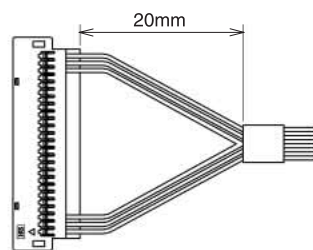

Fig. 3-1
- \* To avoid wire damage or termination faults bundling of the wires should be at the distance of 20 mm min. from the socket (Fig. 3-1)